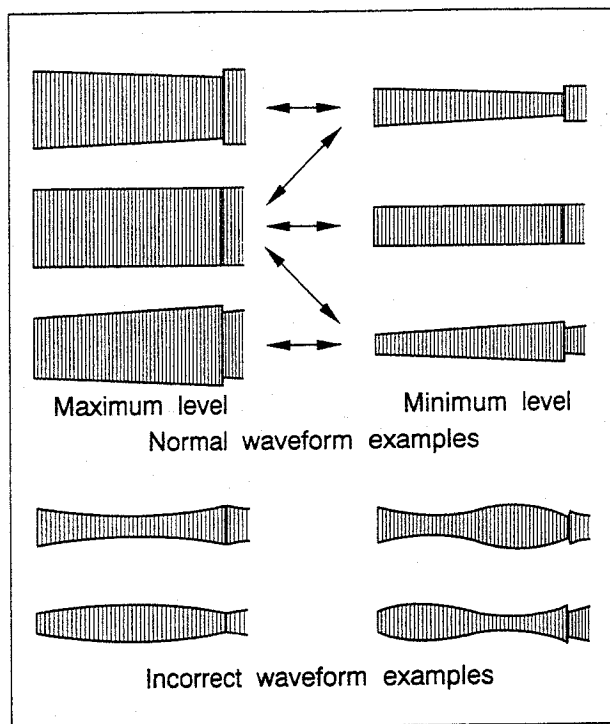

Fig. 2-7-1
- (1) Connect the oscilloscope to TP6(PB FM) on the PRE/REC board.Use TP11(D.FF) on the PRE/REC board as a trigger.
- (2) Playback the SP staircase portion of the alignment tape [MHPE].Confirm that the FM waveform appears as indicated in Fig.2-7-1.
- (3) Set the manual tracking position by pressing the **///** button on the remote controller.
- (4) Operate the tracking adjustment (press the TV PROG buttons during playback) and set for maximum playback FM waveform.
- (5) By operating the TV PROG button,vary the FM waveform from maximum to minimum and vice versa to confirm that the waveform varies nearly in a flat shape as shown in Fig.2-7-1.